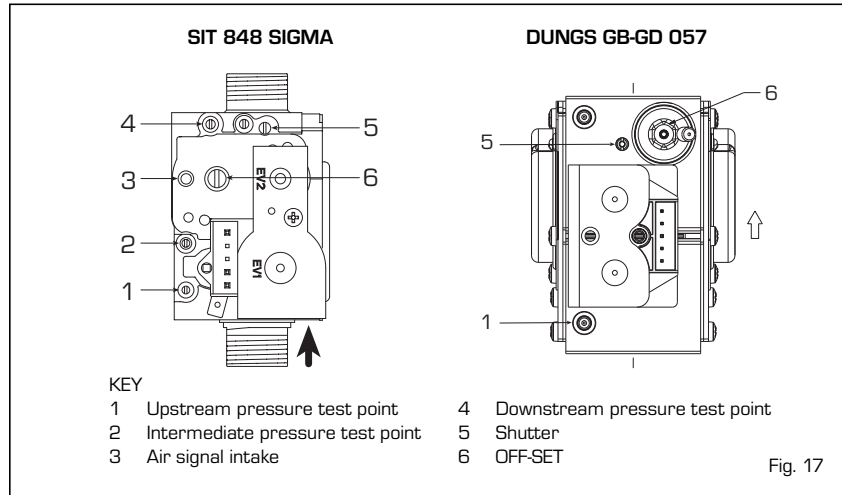

Fig. 17
4.2 GAS VALVE (fig. 17)
The boiler "60 BFR" is equipped standard with the SIT 848 SIGMA gas valve. The boiler "100 BFR" is equipped standard with the DUNGS GB-GD 057 gas valve (fig. 17).
With the boiler operating in the maximum rate condition check that the operational (working) gas pressure at the inlet gas pressure test point (see fig. 17 item 1) complies with the requirements of table 1.3.